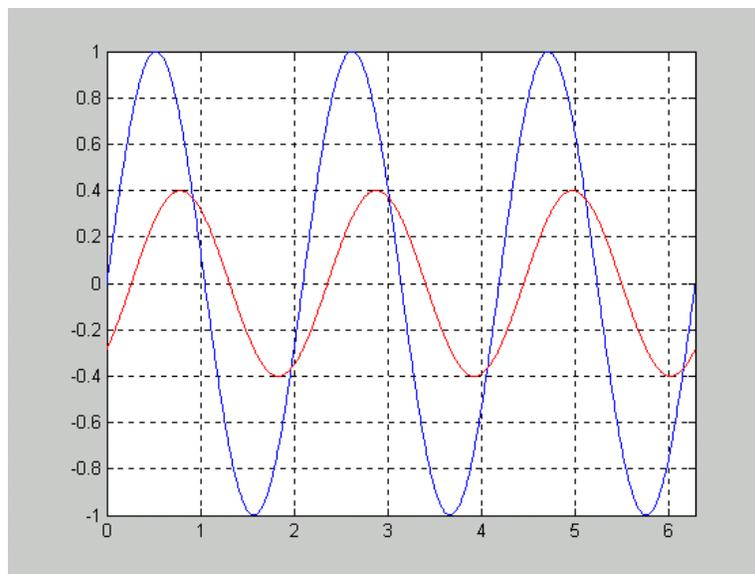

Figure 1 – Graph of input and output Sinusoids
2. Determine the equations of the sine waves depicted in Figure 1. The y-axis is magnitude and the x-axis is time ranging from 0 to  $2\pi$  seconds. The larger amplitude signal is the input and the smaller amplitude signal is the output.